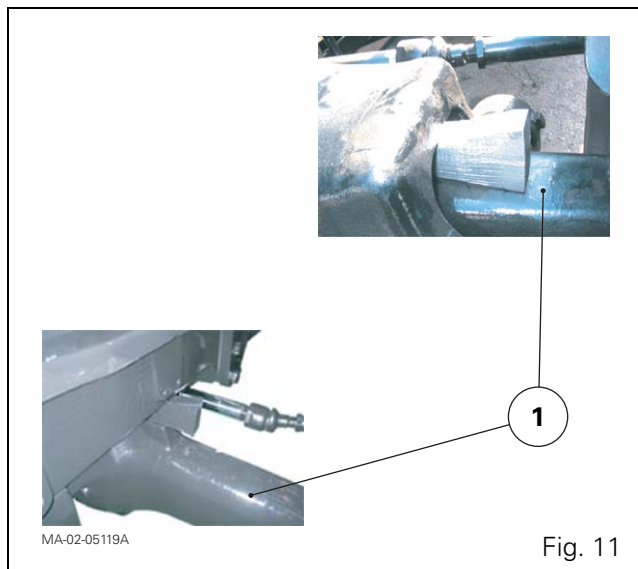

Fig. 11
23. Cancel the front axle oscillation (all versions) by sliding a suitable chock in at each side of the frame and front axle (1) (Fig. 11).